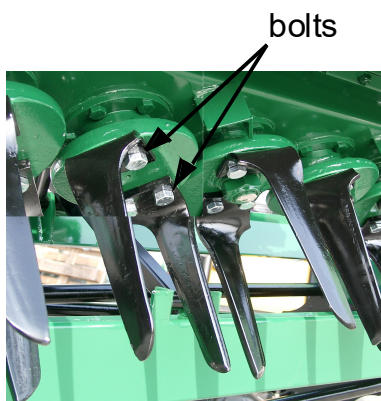

Figure 1
- Check if the bolts that fix the tines to the rotors are tightened well (see Fig. 1). Tighten as needed.